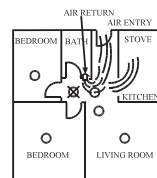

Figure 6:
- When air streams passing by kitchens, the way how a detector can sense combustion particles in normal air-flow paths is graphically shown in Figure 6, which indicates the correct and incorrect smoke detector locations concerning this problem.